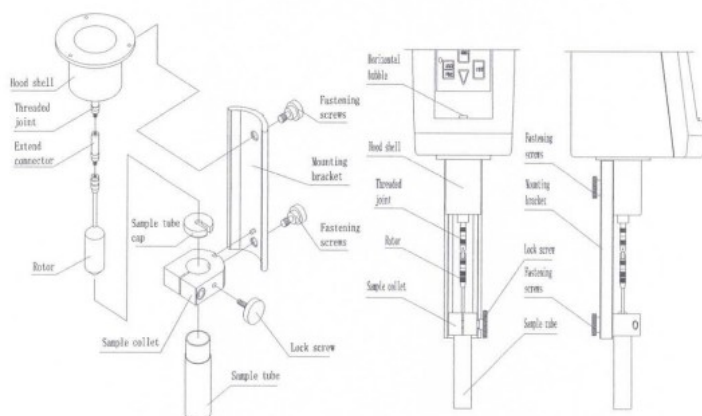

Fig. 9
5. According to the selected rotor, pour the required sample amount (see the table below) for testing. After completion, put the sample tube cap on it, as shown in Fig.9 and Fig.10.